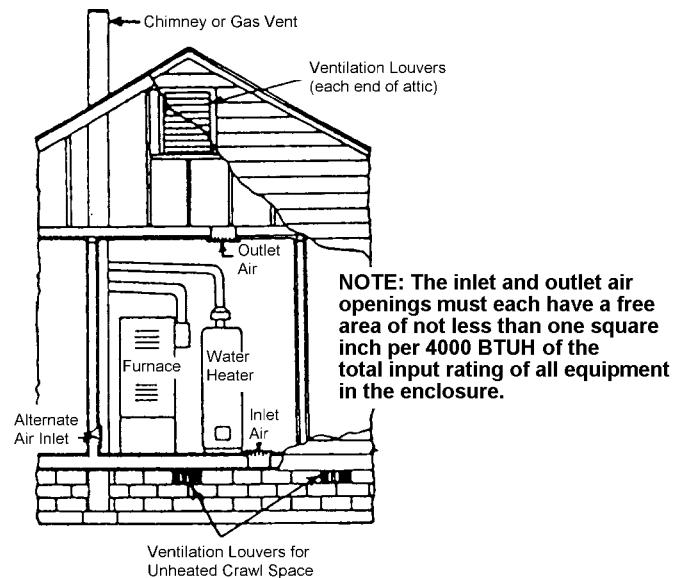

Figure 2
1. When directly communicating with the outdoors, each opening shall have a minimum free area of 1 square inch per 4,000 BTU per hour of total input rating of all equipment in the enclosure (Figure 2).